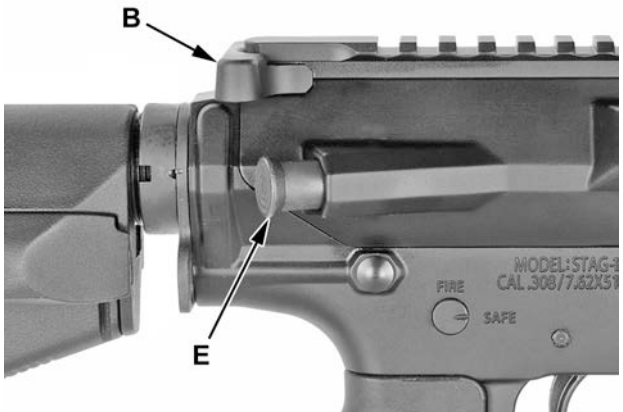

Figure 10
6. To load a round into the chamber, pull the charging handle (B) fully rearward and release. Tap the forward assist (E) with your hand to be sure the bolt is fully forward and locked. A round from the magazine is now loaded into the chamber. See figure 10.